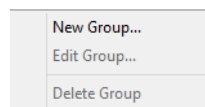

Figure 4-63: Group Tab Menu
1. Right-click in a blank area in the **Groups** Tab to display the Tab menu (Figure 4-63).